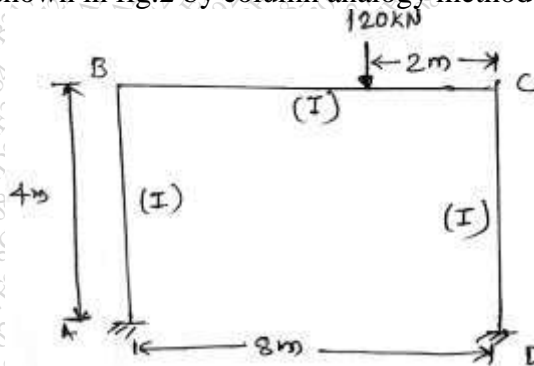

Fig.2
- Q.3 Analyze the portal frame shown in fig.2 by column analogy method & draw BMD 15
- Q.3 Analyze the frame shown in fig.2 by column analogy method & draw BMD. 15